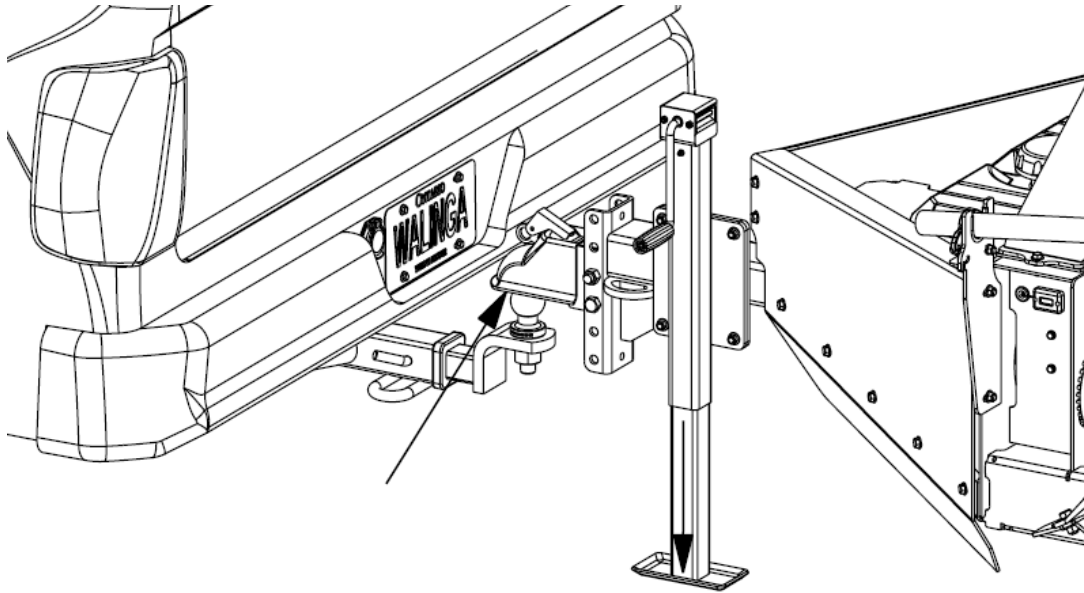

Figure 6-20: Hitch positioning
8. Position the towing vehicle such that the hitch ball is aligned with the coupler, as seen in **Figure 6-20**.